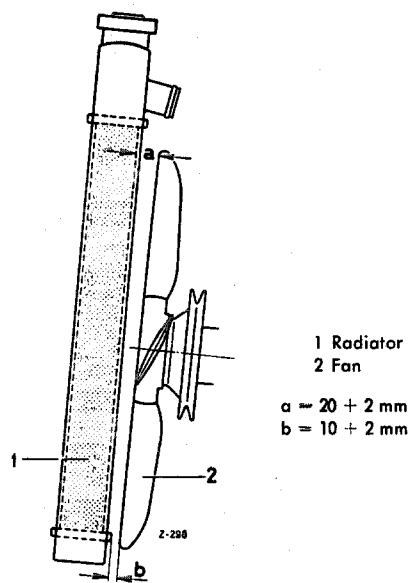

Fig. 50 — 1/4
18. Ensure that a minimum distance of $a = 20 + 2$ mm remains between the top of the fan and the radiator, and $b = 10 + 2$ mm between the bottom of the fan and the radiator. Then tighten the upper and lower radiator fixing screws and nuts (Fig. 50 — 1/4).